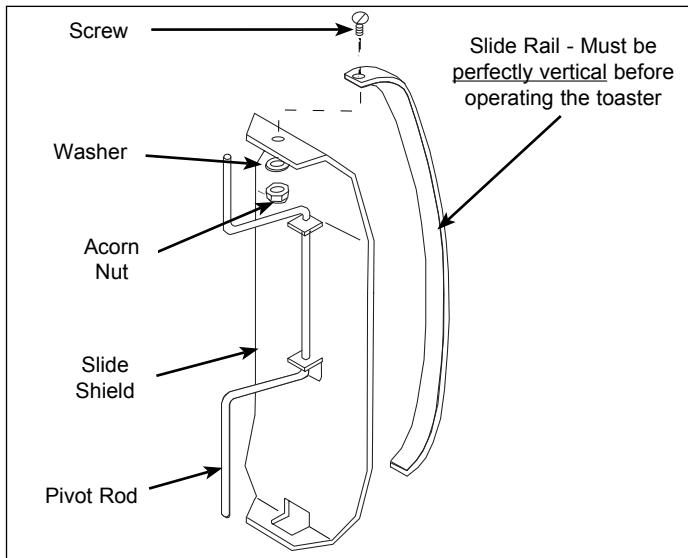

Figure 3. Typical Tensioner Assembly with Slide Rail
8. Install and secure the new Slide Rails onto the Tensioner using the supplied hardware as shown in Figure 3.